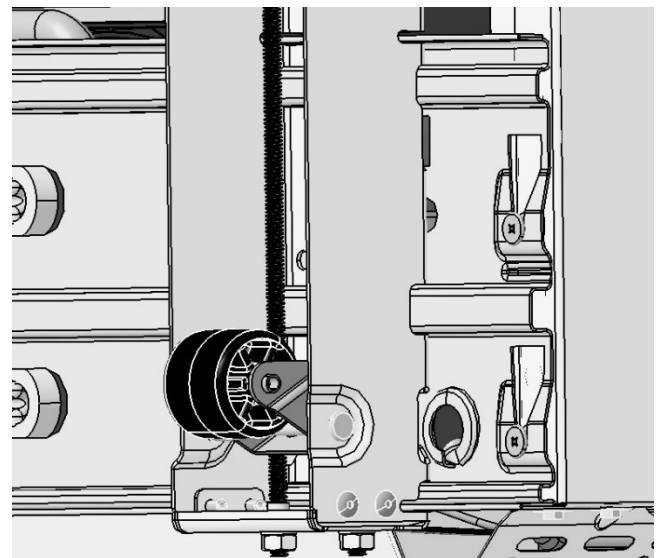

Figure 3
- a. Fit the first Leveler Assembly onto a refrigerator/freezer as shown in Figure 3: